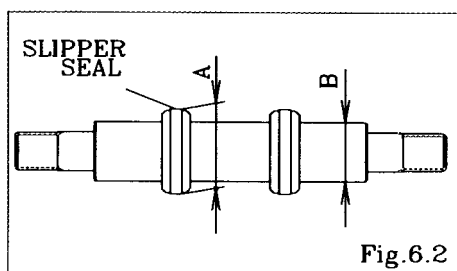

Fig.6.2
- Center rod assembly [Fig.6.2]